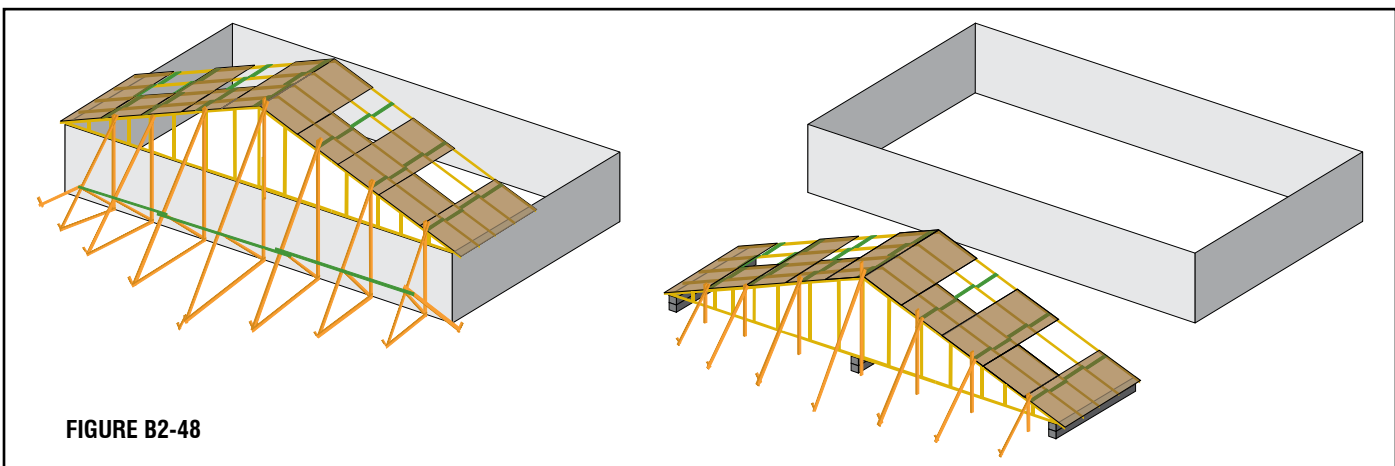

FIGURE B2-48
- ✓ **Build the First Five Trusses Into a Stable Base Unit:** Assemble the first five Trusses with all Structural Sheathing, restraint and Bracing. Some installers lift the first five Trusses one at a time and restrain, brace and sheath as they go. Other installers build the base unit on the ground and lift it into place. Either way, this makes the installation process much easier, accurate and safe (see Figure B2-48).